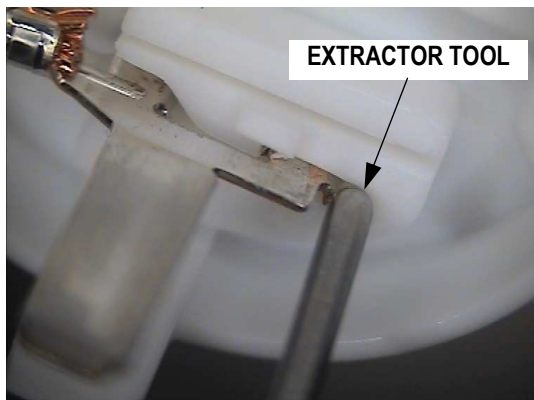

Figure 3
2. The Latch on the housing will open and then release the terminal. Pull the crimped terminal out by the wire in the direction shown. See Figure 3 and 4.